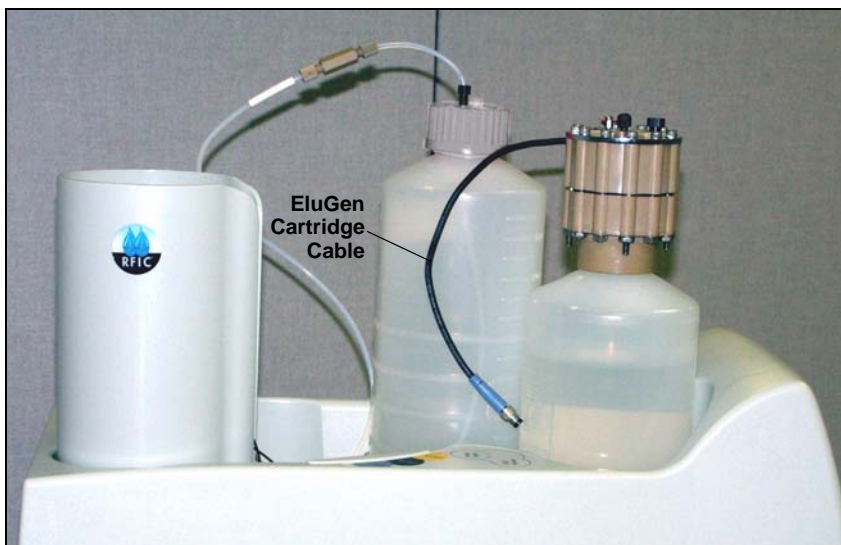

Figure 5-40. EluGen Cartridge in Service Area
12. Set the EluGen cartridge in the service area on top of the ICS-2100 and orient it with the cable toward the EGC holder (see Figure 5-40).